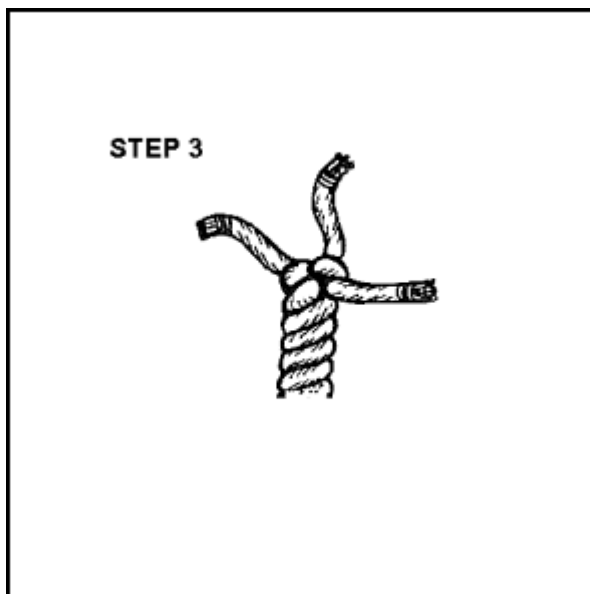

Figure 12-26. Making a Back Splice, Step 3
- Step 3. Start the left strand; go over one strand, tuck under the next one, and pull the strand tight (Figure 12-26).